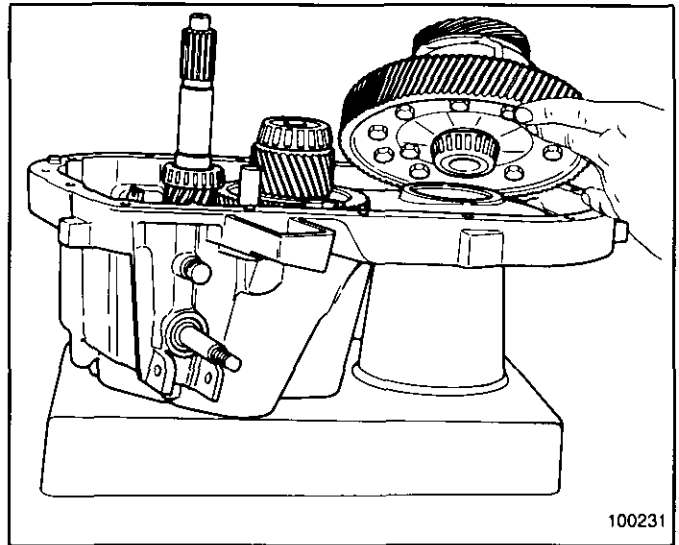

Figure 9 Removing Ring Gear/Differential
4. Remove the ring gear/differential assembly shown in Figure 9.